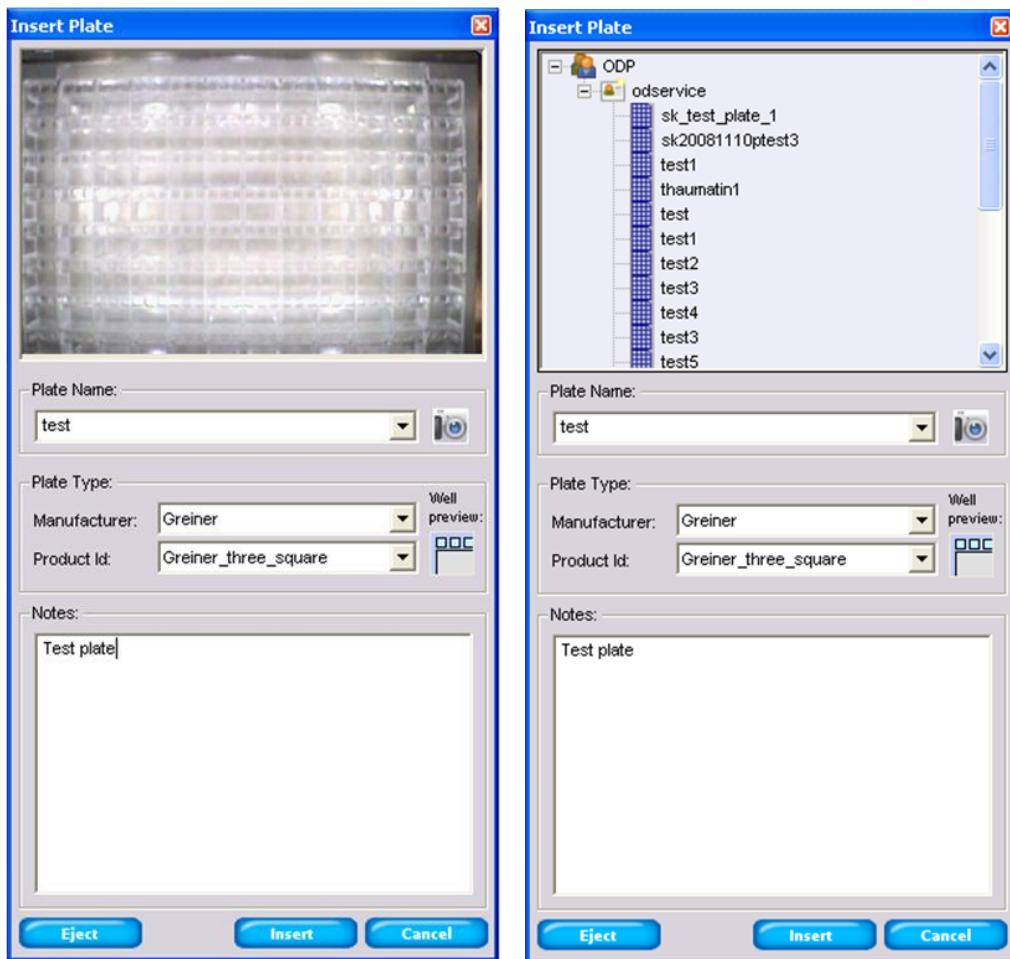

Figure 4 Plate Insert dialog - spy mode or tree mode
The insertion procedure is controlled by the dialog shown in Figure 4. This window allows the user to insert and eject the plate. In this dialogue the Plate Name has to be specified. If a barcode has been read then this name will be filled automatically with the barcode, otherwise the user has to type a unique name for this plate. This Plate Name will be used to identify this plate when browsing the database. The first time this plate is inserted into the PX Scanner the Plate Type must be selected from the drop-down lists. The method for defining new plate types is defined in section 7.3 The New Plate Definition tool. At a later time, if this plate is inserted again then the **same** Plate Name must be entered in order to access, update and add to the data measured on this plate.
The upper part of the dialogue window may be switched between the plate optical view and the database tree view. On the right side of plate name section there is small icon that should be clicked and held to switch to the plate optical view (see Figure 4).
- By switching to database tree view and selecting a plate name (see Figure 4).